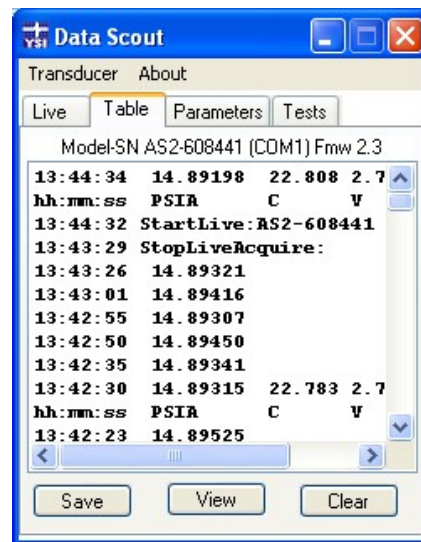

Figure 3.19
- When any overlay page or tab is displayed that obscures the ‘Live’ or ‘Table’ tabs, live recording ends. The table will mark this break in data collection display another event line when live data acquisition resumes (Figure 3.19).